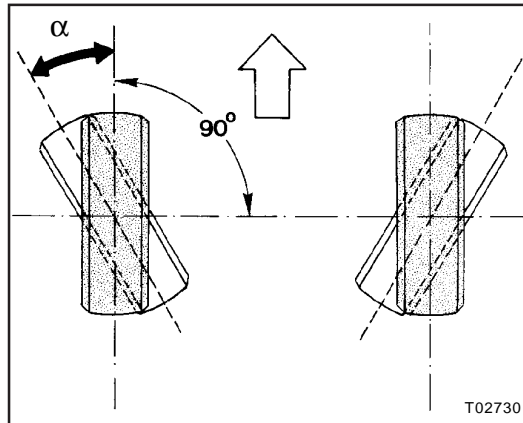

Figure 10
3. Remove socket screw (8).
4. Remove the twelve screws (3) retaining the wheel flange and the brake disc to the hub unit.
5. Remove wheel flange (7).
7. Unscrew hub nut (1) using the socket of figure 10. Remove washer (2).